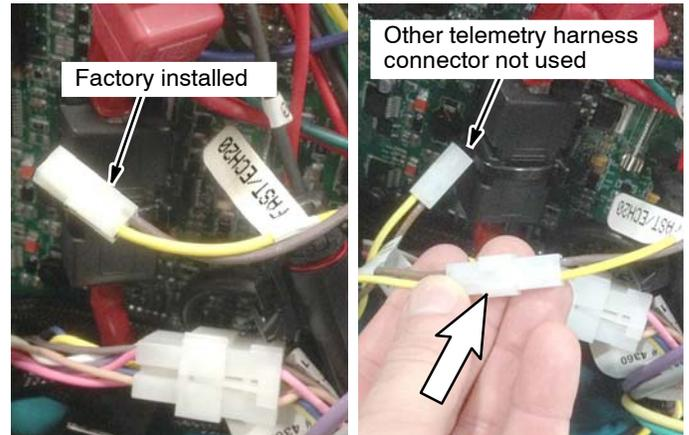

FIG. 15
16. **Machines without ec-H2O:** Locate the factory installed open wire connector labeled FaST/ECH2O, (wires 14A/YEL 22A/BRN) within the circuit board area. Connect the brown/yellow wire connector from telemetry harness into open connector (FIG. 15).